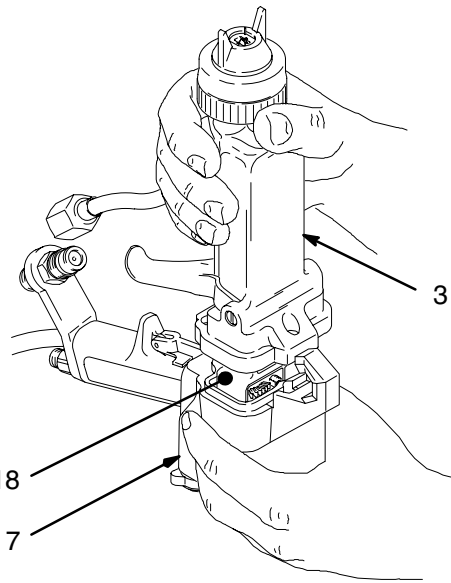

Fig. 13
3. Loosen the three cap screws (5), using the 4 mm driver (55), supplied.
4. Hold the gun handle (7) with one hand and pull the barrel (3) straight away from the handle to remove it. See Fig. 13.